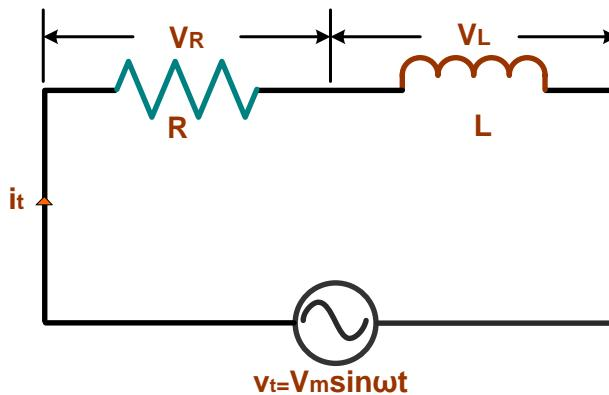

Figure 2.22 Circuit Diagram of Series R-L Circuit
- Consider a circuit consisting of a resistor of resistance R ohms and a purely inductive coil of inductance L henry in series as shown in the Figure 2.22.